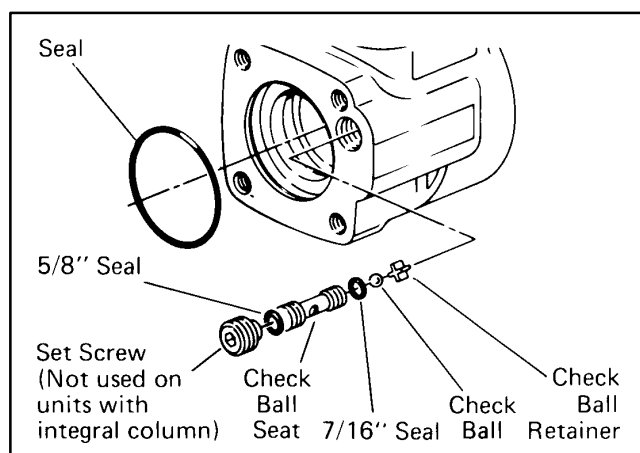

Figure 35
20. Remove seal from housing, see Fig. 35.
21. Screw a #10–24 machine screw into end of check ball seat. Then, by pulling on screw with a pliers, lift seat out of housing, see Fig. 35.